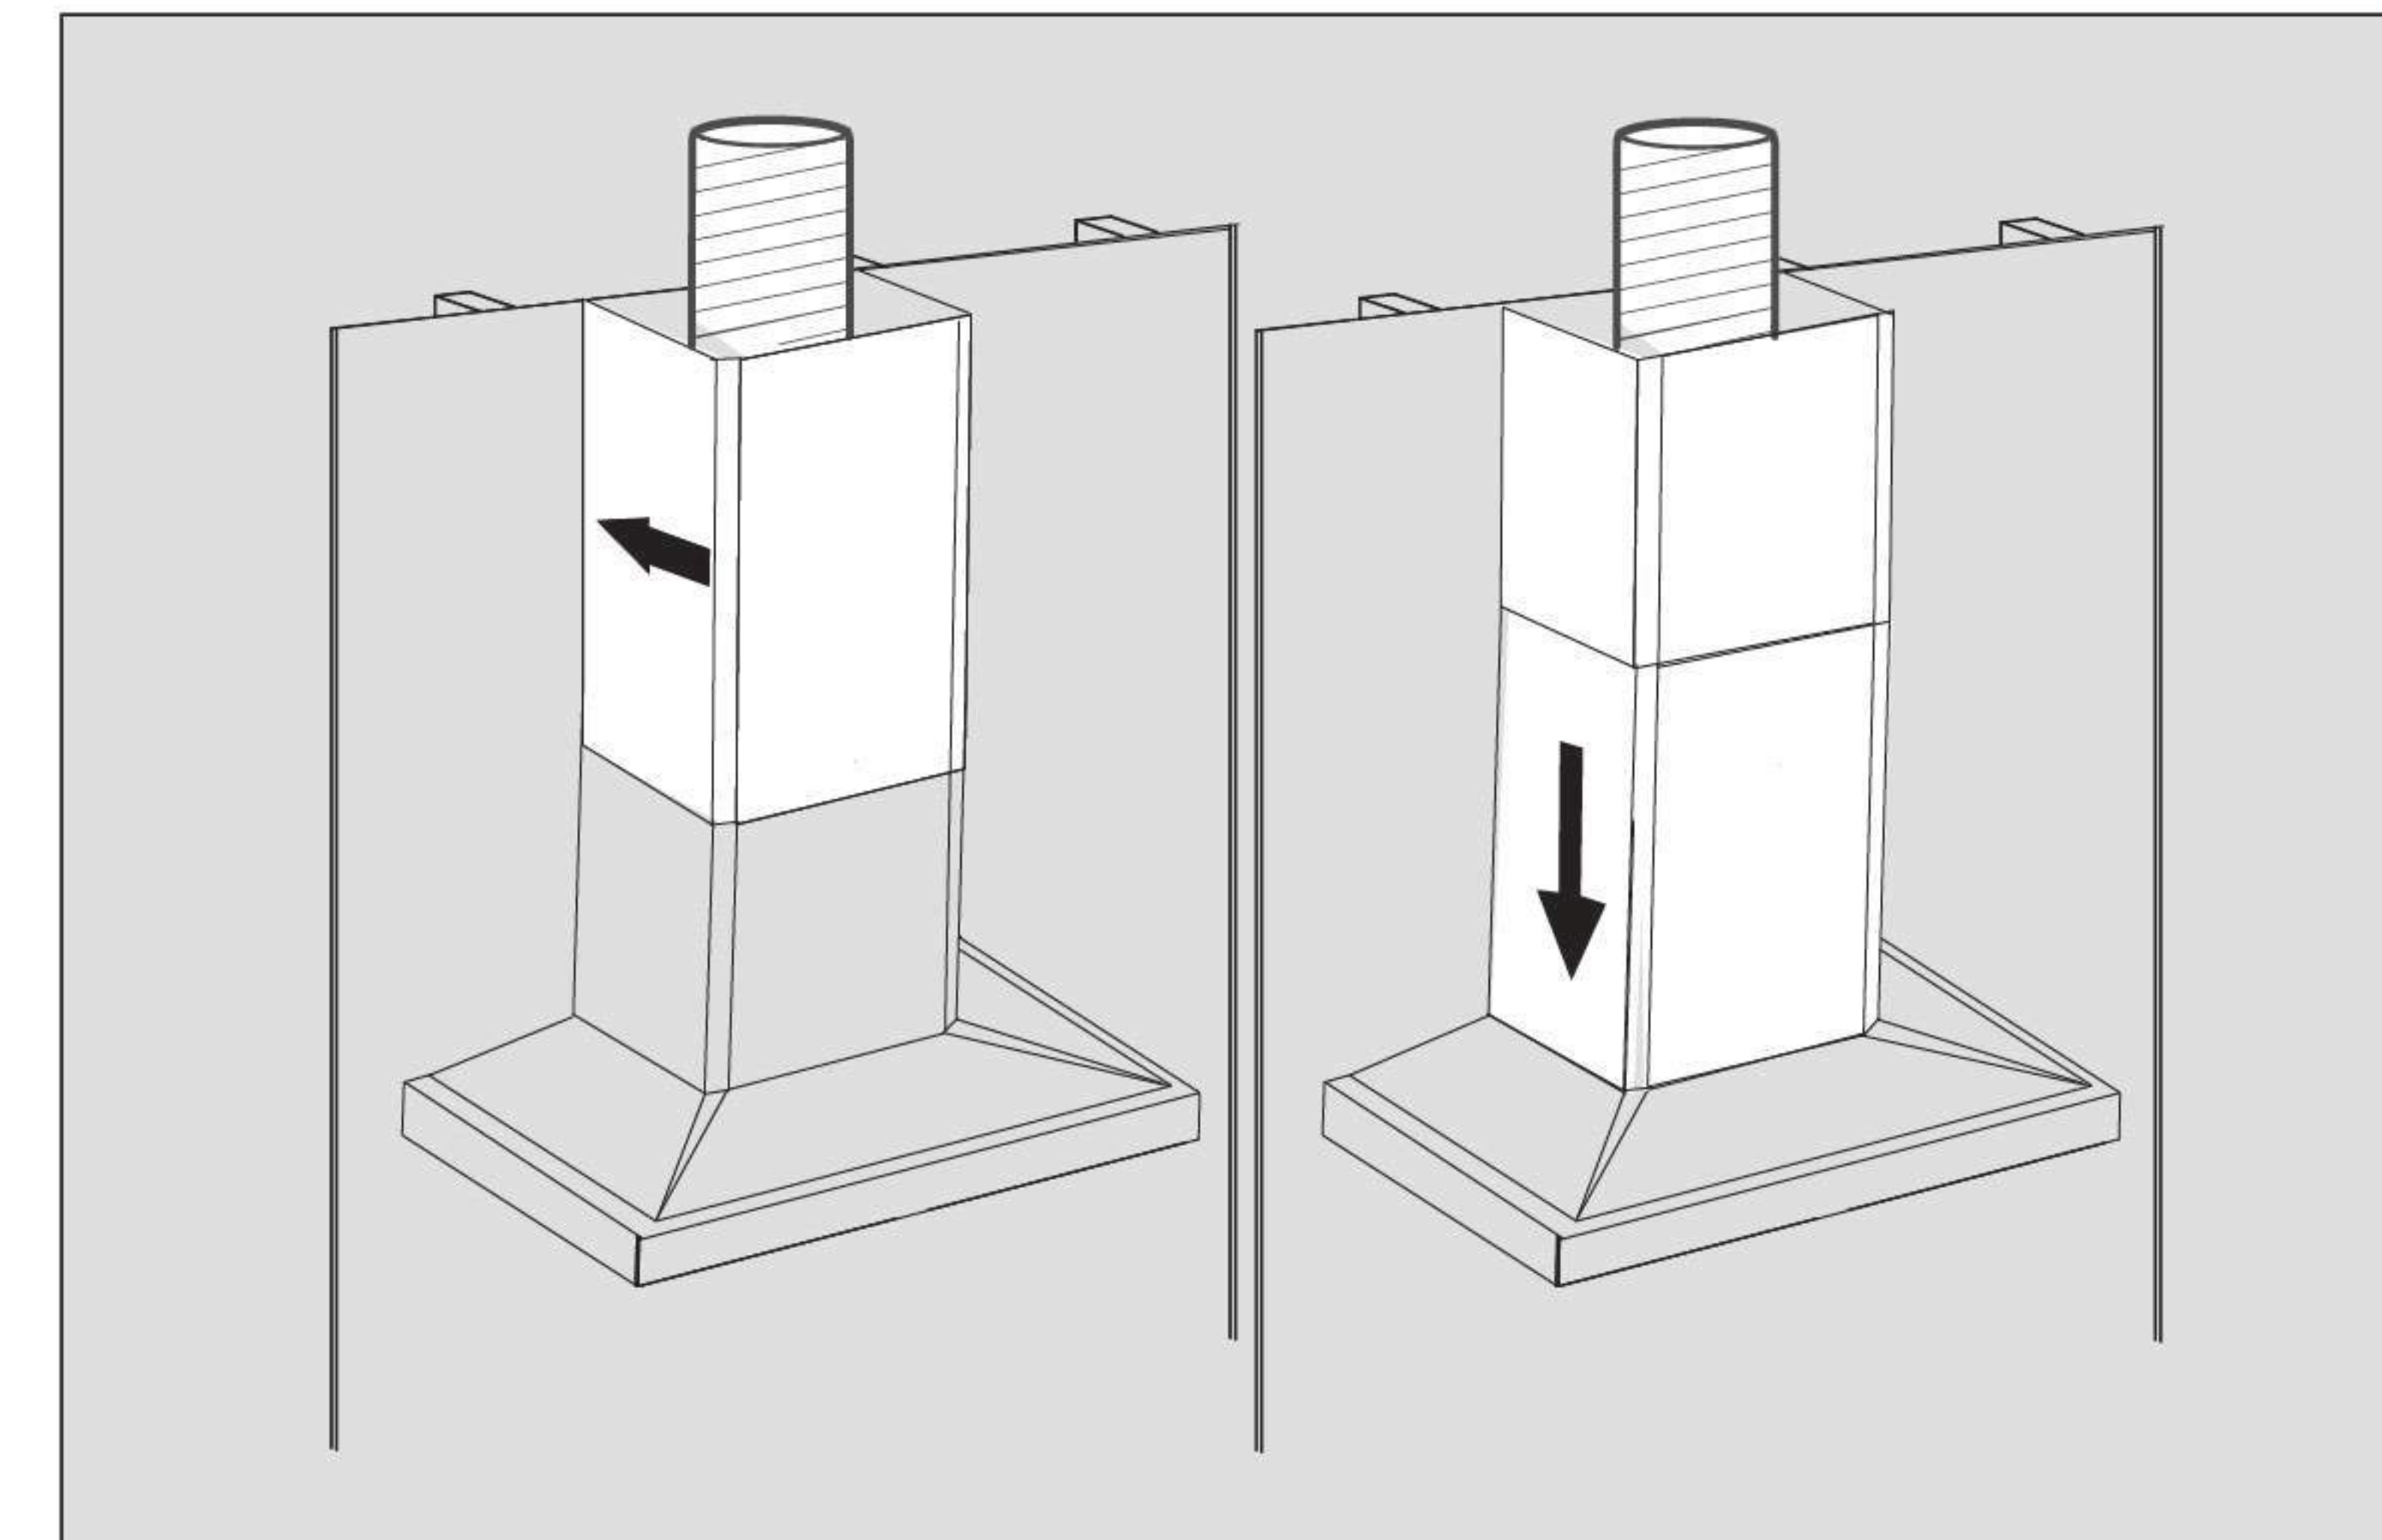

Figure 4
- Blower outer cover and decorative cover installation (see Fig 4)